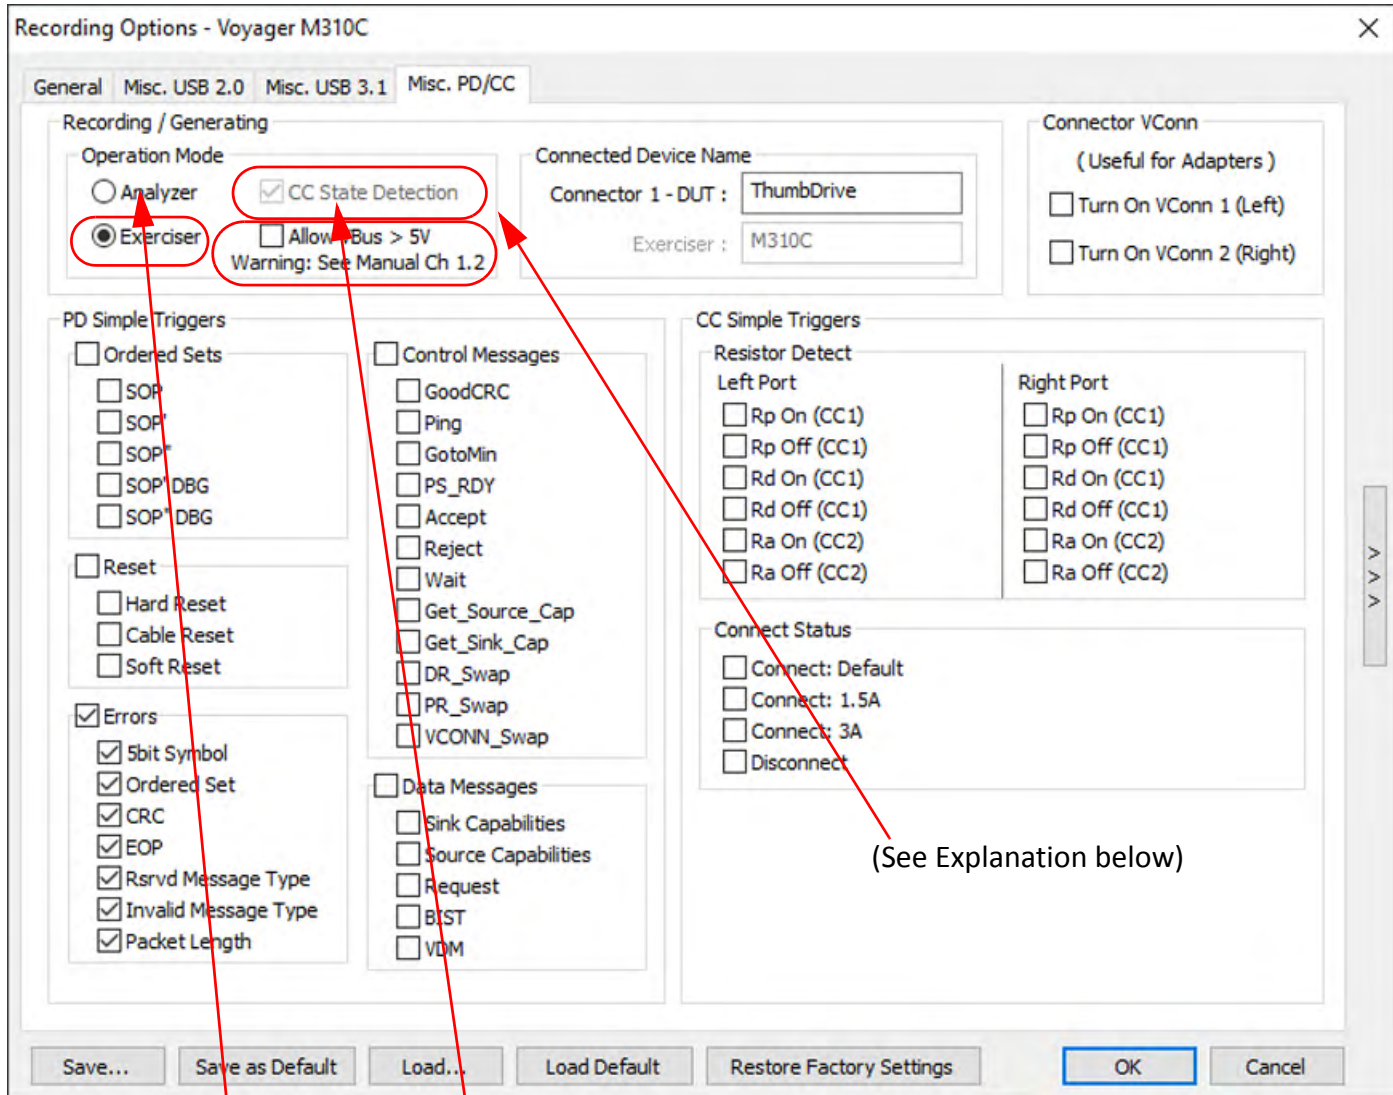

Figure 10.16: Voyager M310C: Recording Options for PD and CC Events
The Trigger options for Misc. Power Delivery (PD)/Channel Configuration (CC) events are the same in both Simple and Advanced Mode. See Figure 10.16 on page 345.